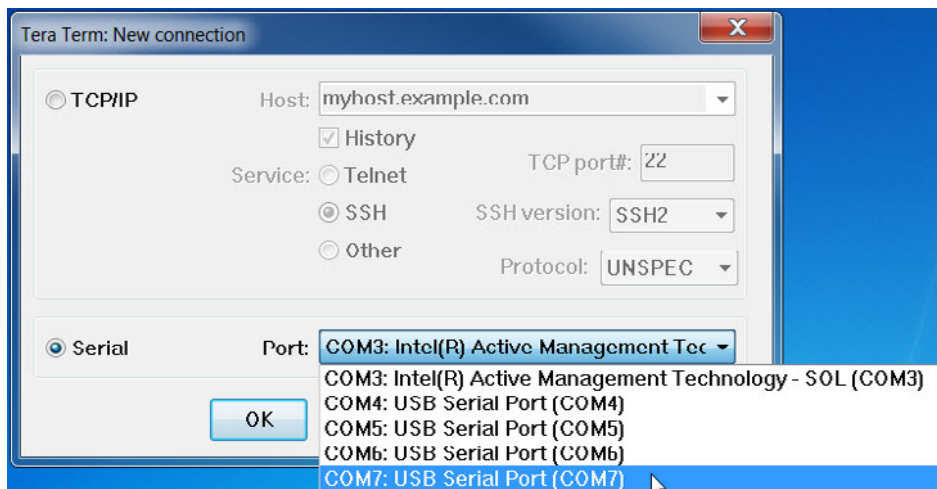

Figure 6-8 • Configuring the Serial Port in Tera Terminal
2. When the New Connection dialog box appears (Figure 6-8), select **Serial**.